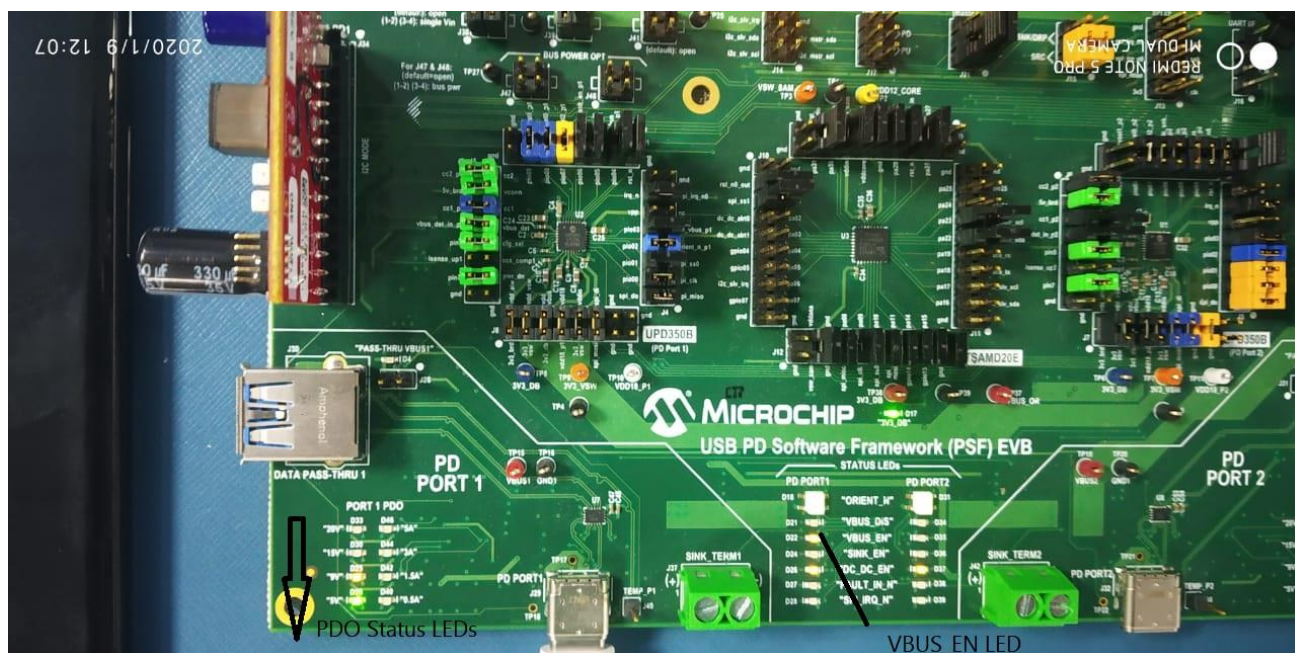

Figure 7.2 VBUS\_EN and PDO Status LEDs after device attach
4. Once an explicit power contract negotiation is in place, the device starts charging. VBUS\_EN LED will turn on along with the PDO status LEDs indicating the negotiated voltage as shown in Figure 7.2
5. In our case, Google Pixel connected in Port 1 has requested 9V and Samsung Galaxy in Port 2 has requested 5V. The status of VBUS\_EN and PDO status LEDs is shown in Figure 7.2